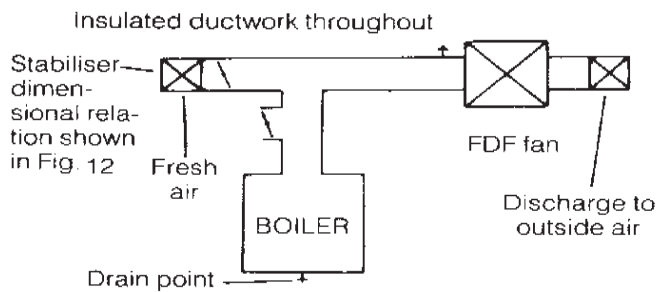

Fig.6 Application of Draught Stabiliser
2. A draught stabiliser **MUST** be fitted to all types of flue systems and set to control the draught in the casing between neutral and 0.2 mbar (0.08 in.w.g.) irrespective of flue height or number of modules firing. (see Figs. 6 and 7 for further guidance).